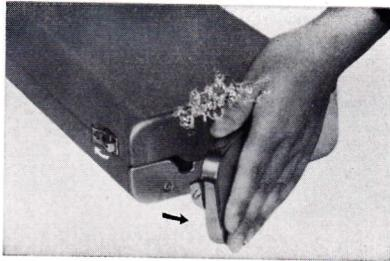

Fig. 3
- b. Unlock the locks on the side covers, open the side covers as they will go. (See Fig.3)